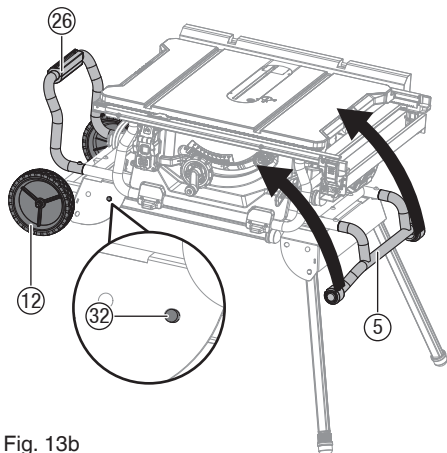

Fig. 13b
- Grasp the handle I (5) and tilt saw back onto wheels until the stand is balanced on the wheels (12) and stand support assembly (26). (Fig. 13b-13c)